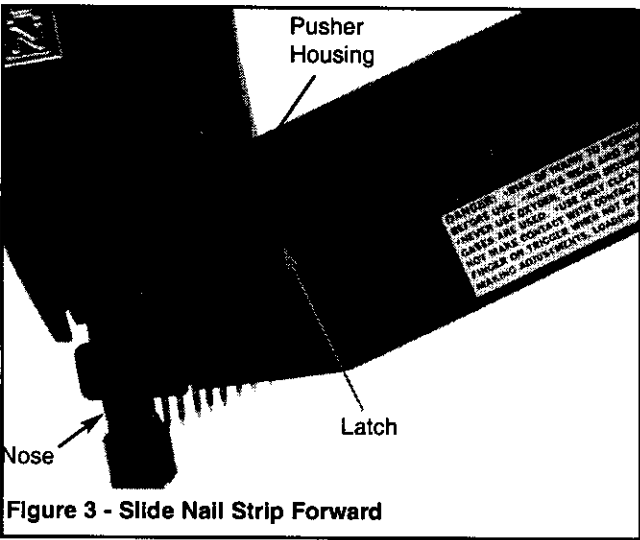

Figure 3 - Slide Nail Strip Forward
- Slide nail strip towards the front of the magazine until the nail strip is in the nose (see Figure 3).